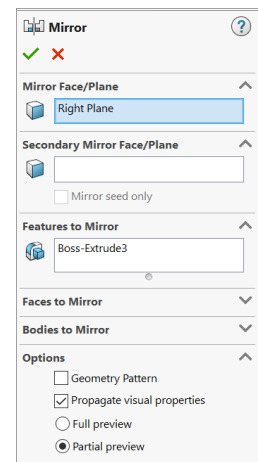

Fig. 61
Step 3. In the Mirror Property Manager click **OK** , **Fig. 61**.